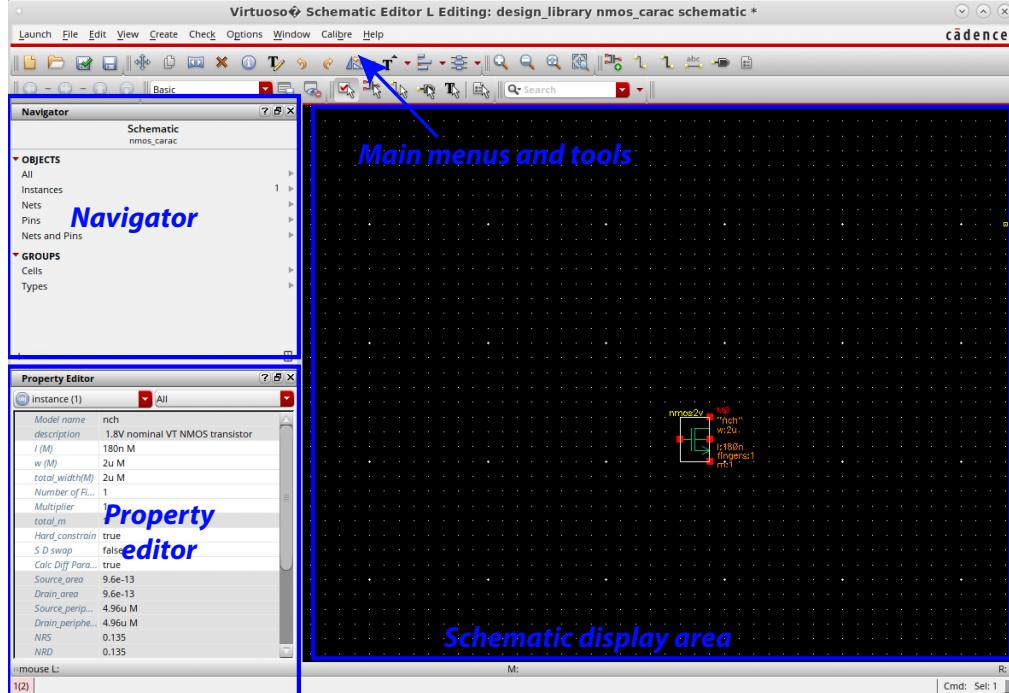

Figure 5: Schematic editor L window.
2. A cell named *nmos_carac* is now created, with one view called schematic and the Virtuoso® Schematic Editor L window should pop-up, allowing you to edit your new cellview (Fig. 5). The **Navigator** part allows you to quickly browse through all the devices, pins, nets, etc. of your design. The **Property editor** allows you to quickly change the property of the currently selected device. The **Schematic display area** is where you will instantiate all the components, voltage sources, etc.